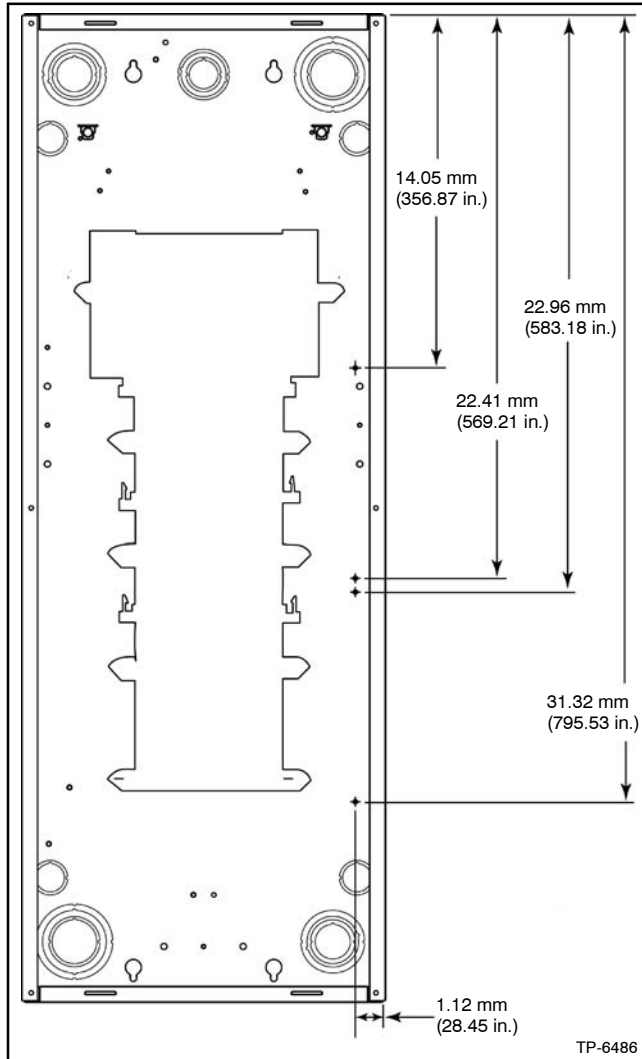
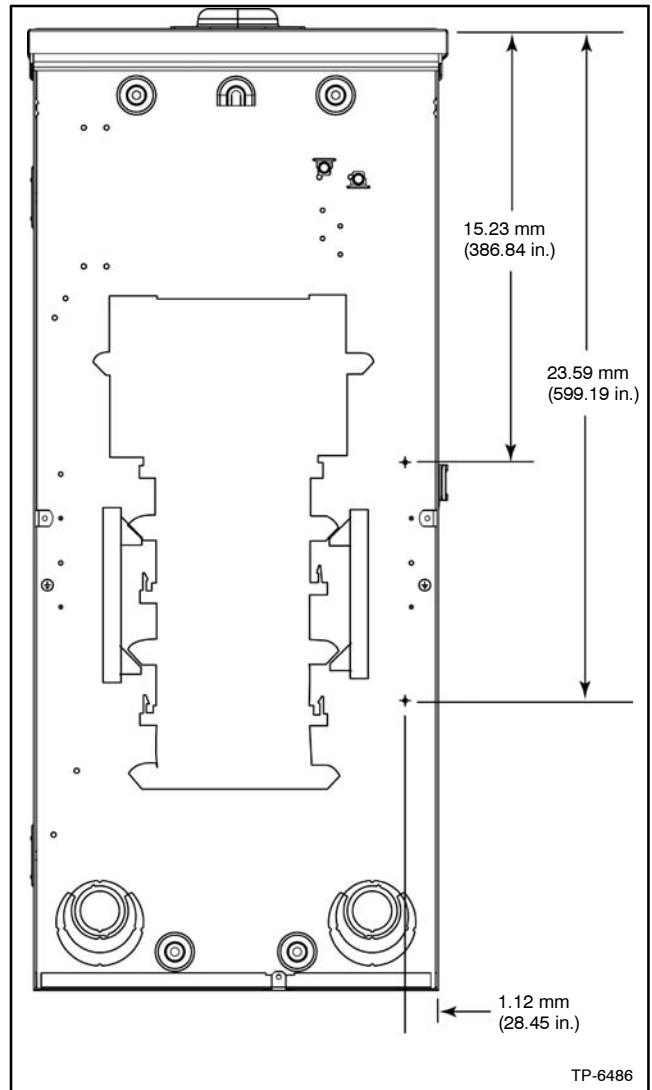

Figure 2-48 Drill Pattern, Type 1 Enclosures
Figure 2-49 Drill Pattern, Type 3R Enclosures
1. If the load center does not have predrilled mounting holes, using a drill and a number 28 (0.140 in.) drill bit, drill the appropriate number of mounting holes for the installation. Refer to Figure 2-48 or Figure 2-49 for the drill pattern.